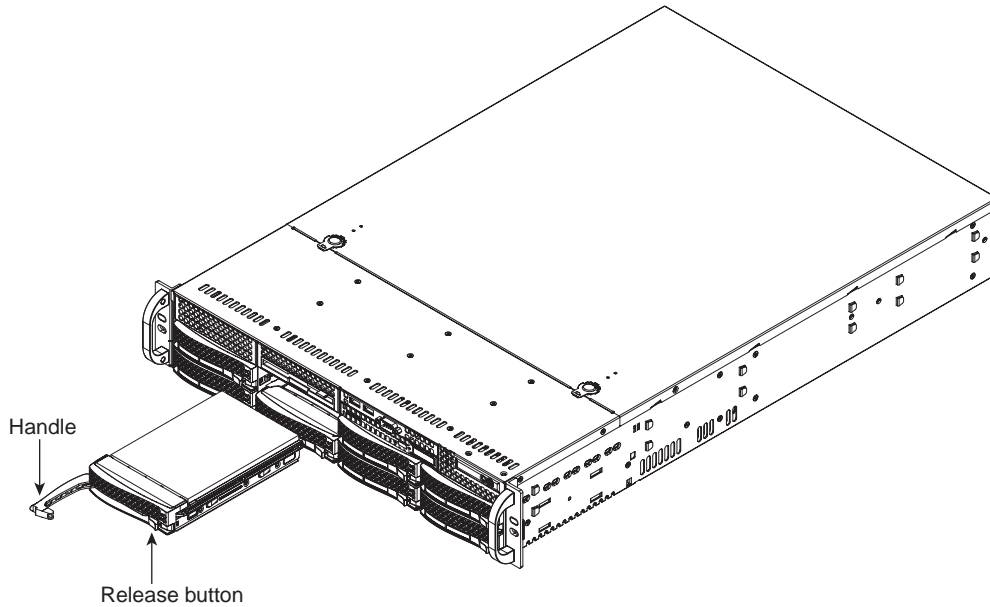

Figure 6-4 Removing SATA Drive Carrier
2. Swing the handle fully out and use it to pull the drive carrier straight out (see Figure 6-4).